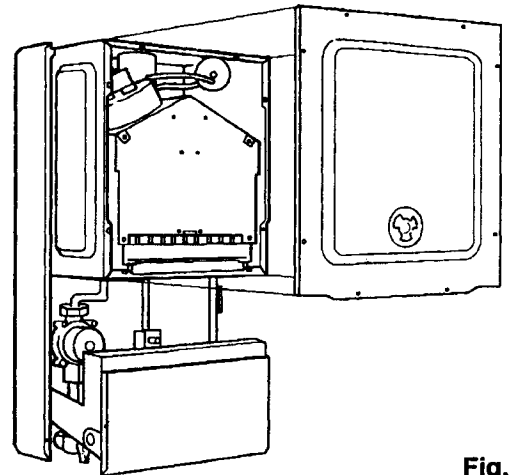

Fig. 25
Part No. 5904 Refer to fig. 25
8.5.2 Remove room sealed front cover plate by releasing eight screws fig. 25) and easing cover off. The screws are not captive. Inspect gasket for damage. If damaged, replace.